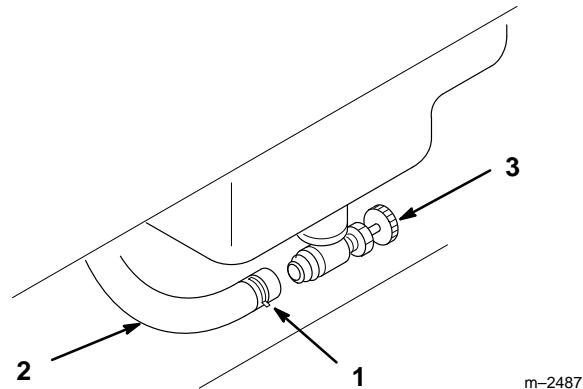

Figure 41
3. Loosen the hose clamp and slide it up the fuel line away from the fuel shut-off valve (Fig. 41).
4. Pull the fuel line off the fuel shut-off valve (Fig. 41). Some fuel will flow out from the hose as it is disconnected from the valve. Attach a 5/16 ID hose to the valve to help drain the fuel into the container. Open the valve and allow gasoline to drain into a gas can or drain pan.
5. Install the fuel line onto the fuel shut-off valve. Slide the hose clamp close to the valve to secure the fuel line (Fig. 41). The fuel shut-off valve